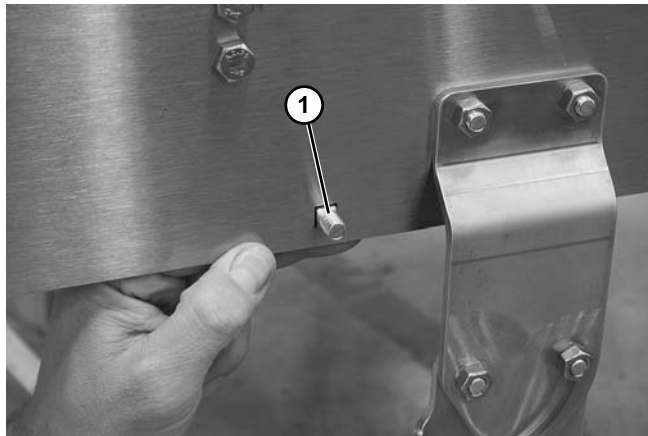

Figure 19
1. Install carriage bolt (Figure 19, item 1) through frame rail.